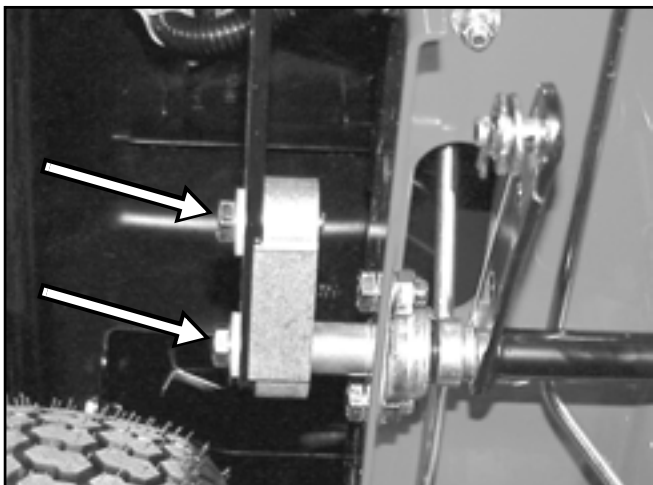

Figure 19
1. Remove the two bolts and washers retaining the lift lever to the lift block and remove them from the lift arm assembly (Figure 19).